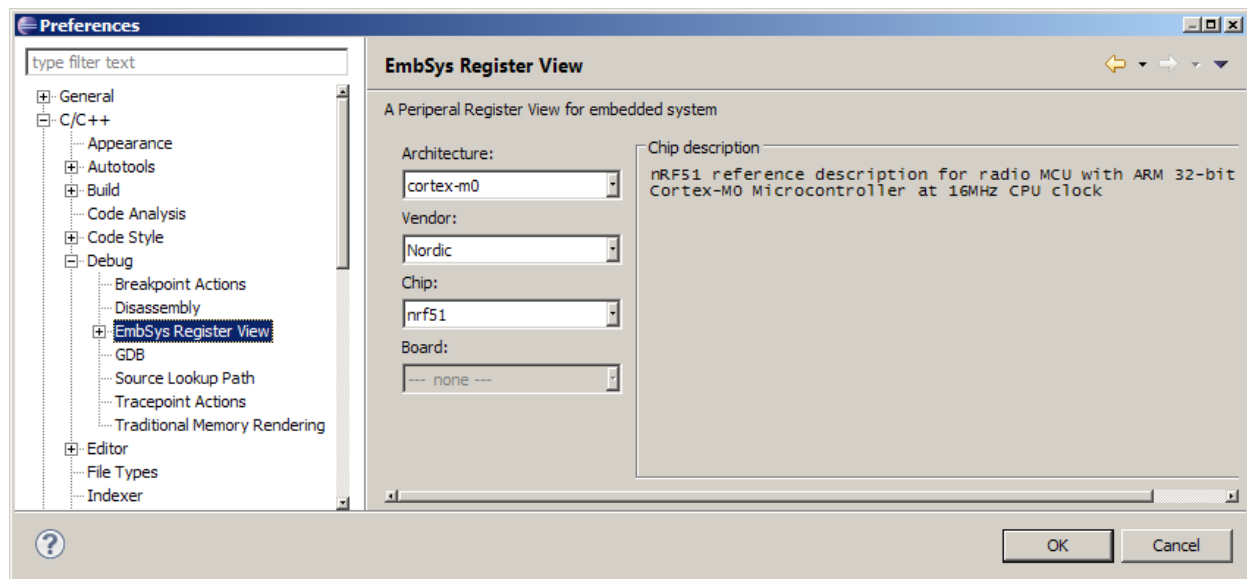

Figure 7 Configuring Emb Sys Register view
6. In the Chip drop down, select **nrf51**. See *Figure 7*.